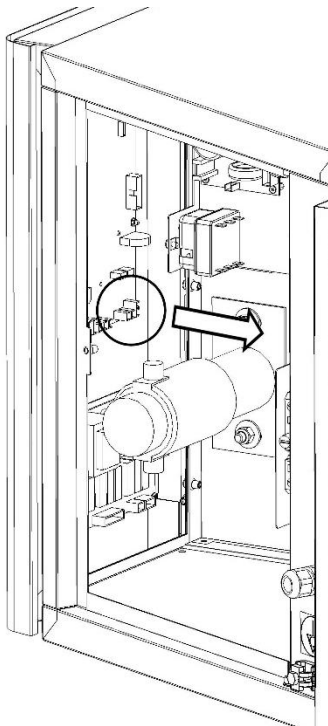

Fig.14A
- 4.Disconnect the electrical connections to the base board (Fig.14A).